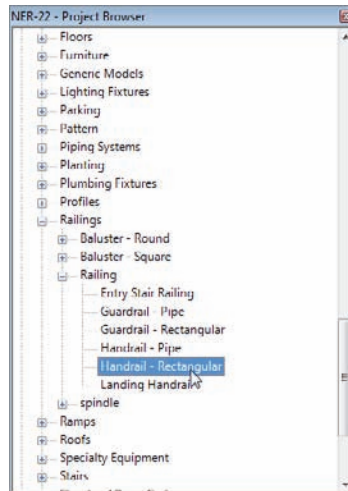

FIGURE 10.58 The railing family called Handrail - Rectangular
1. In the Project Browser, find the Families category and expand it, as shown in Figure 10.58.
3. Find Handrail - Rectangular and double-click it (see Figure 10.58) to open its Type Properties.